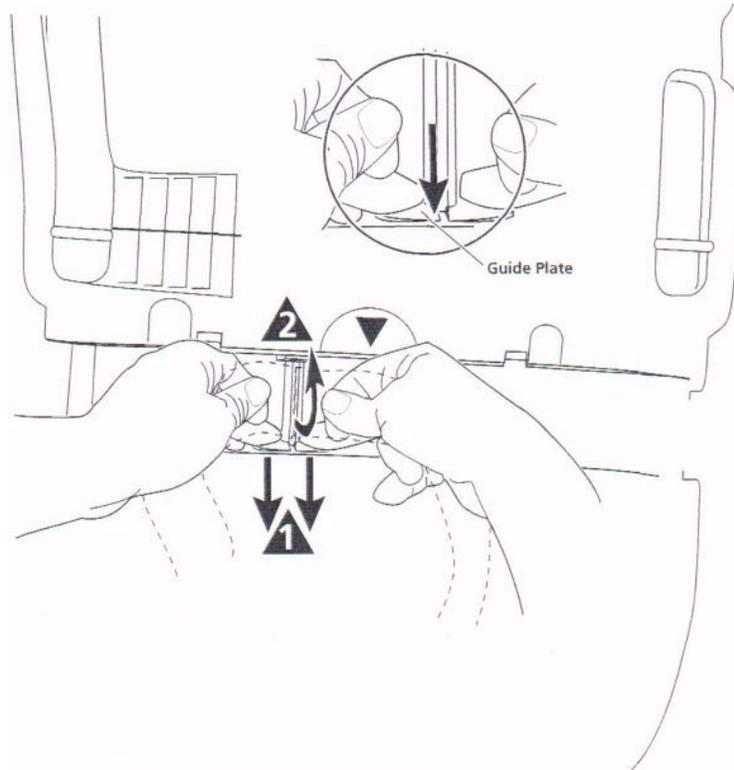

Figure 2-7 Removing the LifeBand® Chest Band from the AutoPulse Platform
3. Remove the LifeBand® chest bands from the AutoPulse Platform by grasping the LifeBand® chest band with the thumb and index finger of both hands, on either side of the LifeBand® band clip. Push in the guide plate, using both middle fingers. Keeping the guide plate pushed in, pull up the band to remove the clip from the shaft (see Figure 2-7).